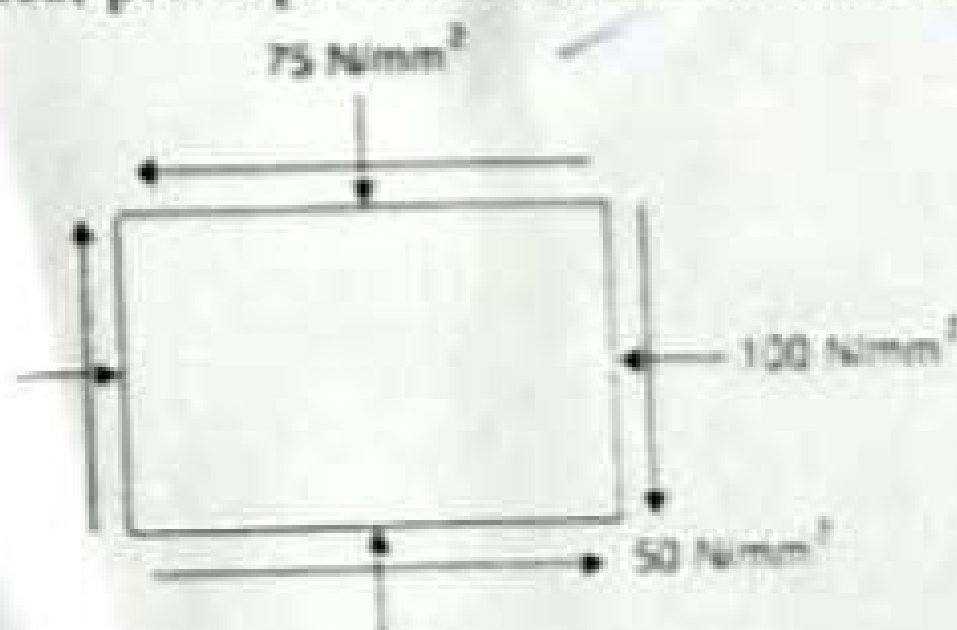

Figure 1.
4. The state of stress in two-dimensionally stressed body at a point is as shown in figure 1. Determine the principal planes, principal stresses, maximum shear stress and their planes.